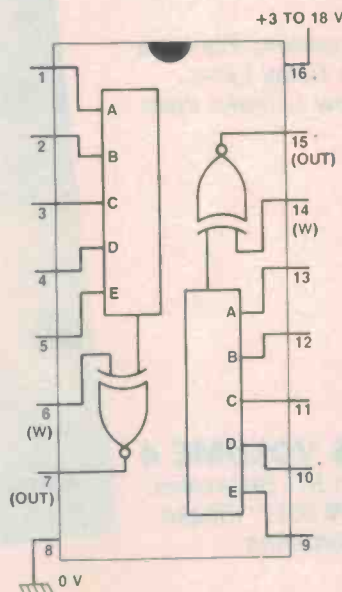

Figure 29. Details of the 4530B dual five-bit majority logic gate.
The best known CMOS majority logic IC is the 4530B dual five-bit unit (Fig 29), each half of which contains a five-input majority logic element with its output feeding to one input of an EX-NOR gate that has its other input (W) externally available, enabling it